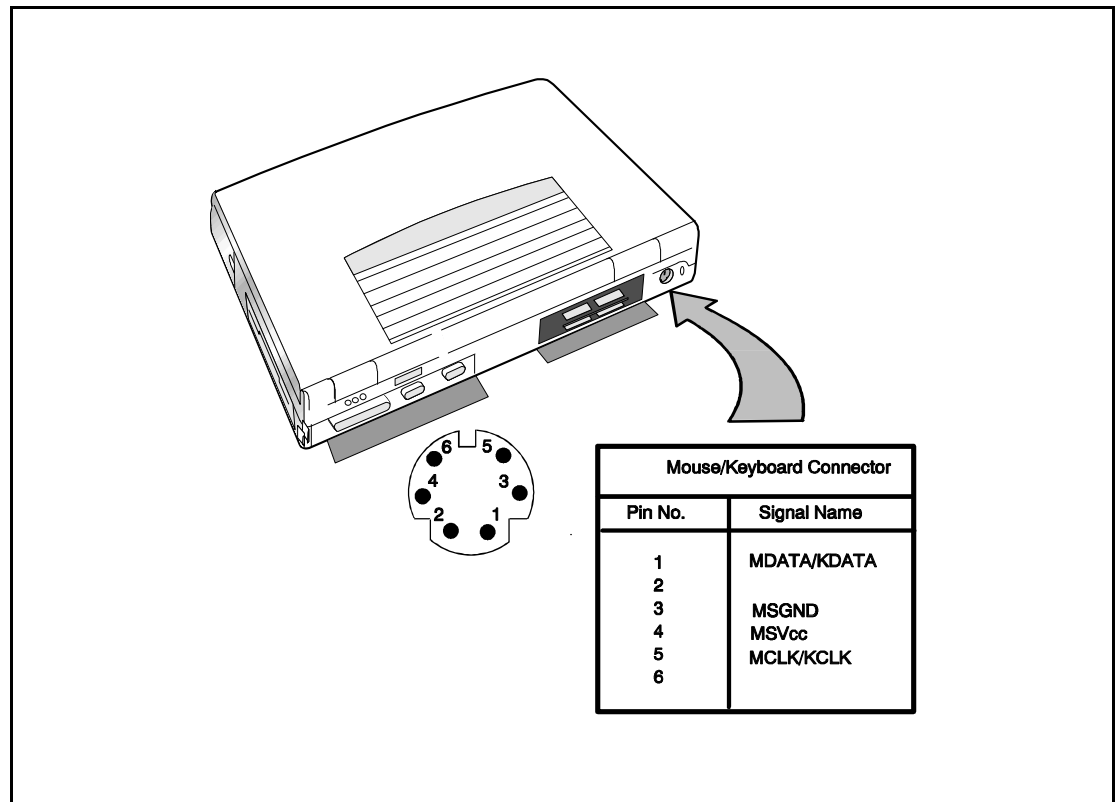

Figure 2-2 PS/ 2 Port Assignments/ Pinouts
An optional numeric keyboard can be attached to the notebook via the notebook's PS/ 2 connector (refer to Figure 2-2).
As shown in Figure 2-2, the notebook has one external PS/ 2 port on the rear of the Notebook for installing a PS/ 2 compatible device (keyboard, mouse, etc.). Additional PS/ 2 devices may be installed using the Port Expander option. Pinouts for the PS/ 2 port on the rear of the Notebook are also provided in Figure 2-2.
2. Locate the external PS/ 2 port at the rear of the notebook (refer to Figure 2-2).